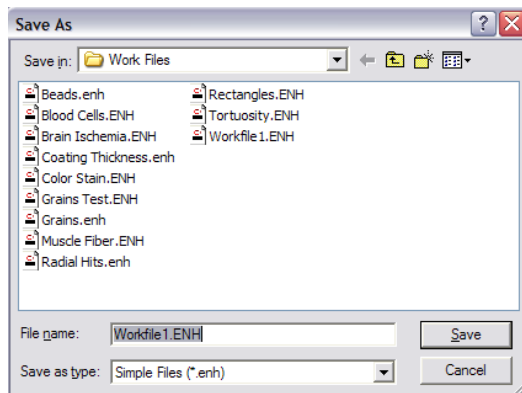

fig.6
12. Save your workfile. Go to the **File Menu** and click **Save As**, assign a file path and name to your Workfile and click **Save** (fig.6). You can now run your new Workfile to track your sample, see following page.